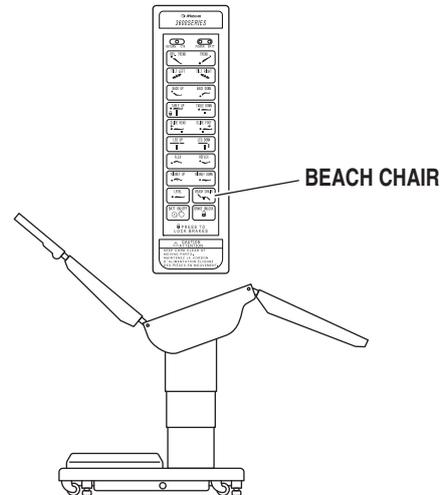

Figure 2-16. Beach Chair Positioning
k. Beach Chair To place the top in the beach chair position from a level position, press the BEACH CHAIR button (figure 2-16). The back section will raise, the leg section will lower and the Trendelenburg positioning will function simultaneously. The functions will stop when Trendelenburg reaches its limit.